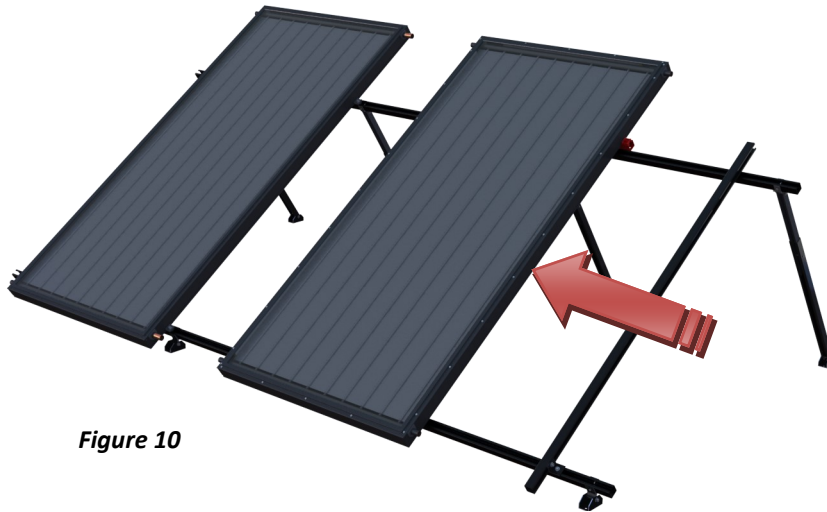

Figure 10
1. Slide Collector into position while aligning header Unions. As shown in *Figure 10*.
3. With the Collector in position install four (4) C-SSN, Collector Mounting Assemblies. Torque to 19 ft\*lbs (26 N\*m).